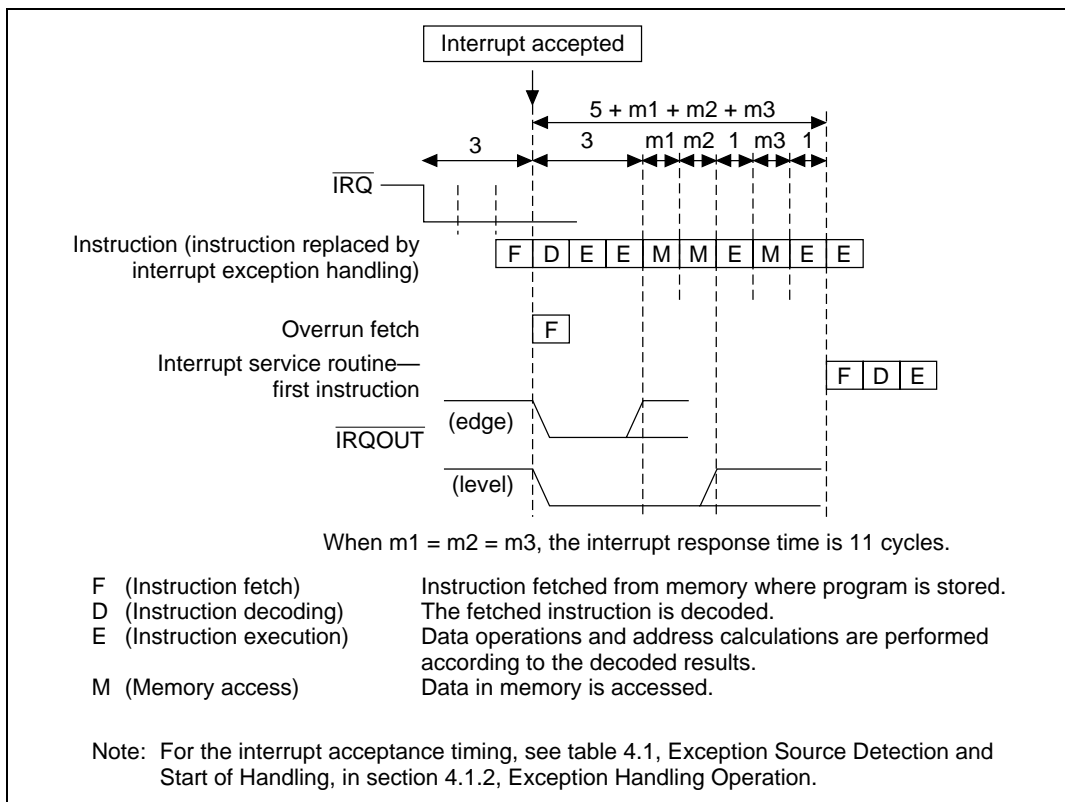

Figure 5.4 Example of Pipelining in IRQ Interrupt Acceptance
3. The interrupt controller compares the priority level of the selected interrupt request with the interrupt mask level bits (I3–I0) in the CPU's status register (SR). If the request priority level is equal to or less than the interrupt mask level, the request is ignored. If the request priority level is higher than the interrupt mask level, the interrupt controller accepts the request and sends an interrupt request signal to the CPU.
5. The CPU detects the interrupt request sent from the interrupt controller when it decodes the next instruction to be executed. Instead of executing that instruction, the CPU starts interrupt exception handling. (See figure 5.4.)
7. The priority level of the accepted interrupt is copied to the interrupt mask level bits (I3–I0) in the status register (SR).
8. When the accepted interrupt is level-sensed or from an on-chip supporting module, the $\overline{\text{IRQOUT}}$ pin returns to the high level. If the accepted interrupt is edge-sensed, the $\overline{\text{IRQOUT}}$ pin returns to the high level when the instruction to be executed by the CPU in (5) is replaced by the interrupt exception handling. If the interrupt controller has accepted another interrupt (of a level higher than the current interrupt), however, the $\overline{\text{IRQOUT}}$ pin remains low.
Table 5.5 shows the interrupt response time, which is the time from the occurrence of an interrupt request until interrupt exception handling starts and fetching of the first instruction of the interrupt handling routine begins. Figure 5.4 shows the pipeline when an IRQ interrupt is accepted.